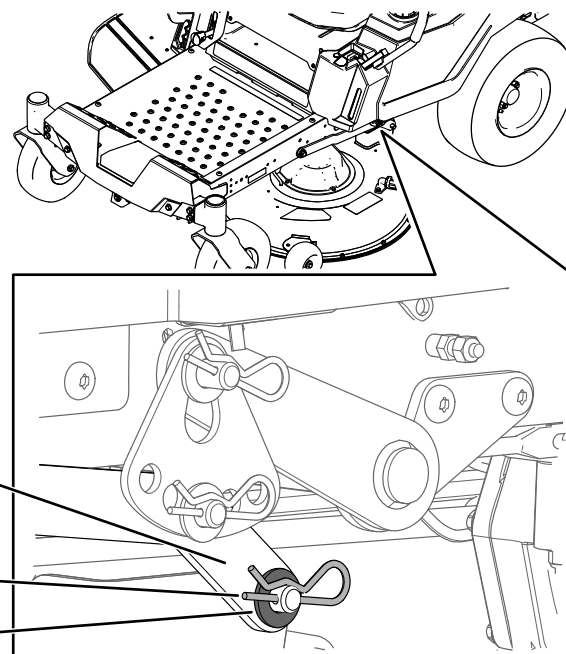

Figure 71
6. On 1 side of the machine, remove the washer and hairpin cotter from the deck pin (Figure 71).
7. Remove the lift arm from the deck pin (Figure 71).
5. On 1 side of the machine, lift the rear of the mower deck and install the lift arm to the deck pin (Figure 71).
6. Install the lift arm using the washer and hairpin cotter (Figure 71).